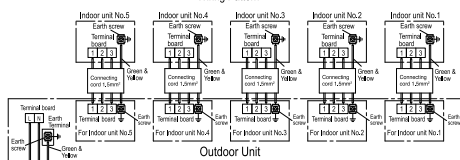

Fig. 1-1
- Connect the electrical wiring between the Indoor and Outdoor unit, as shown in Fig. 1-1. Never connect the wiring by mistake.